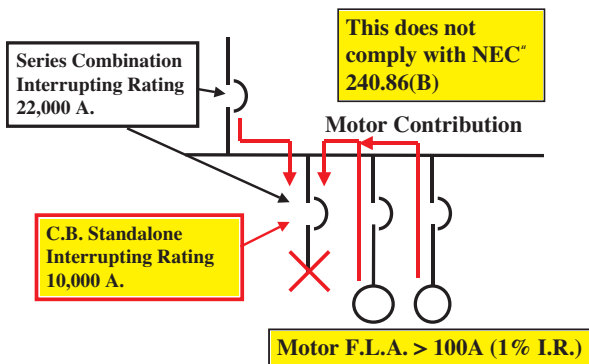
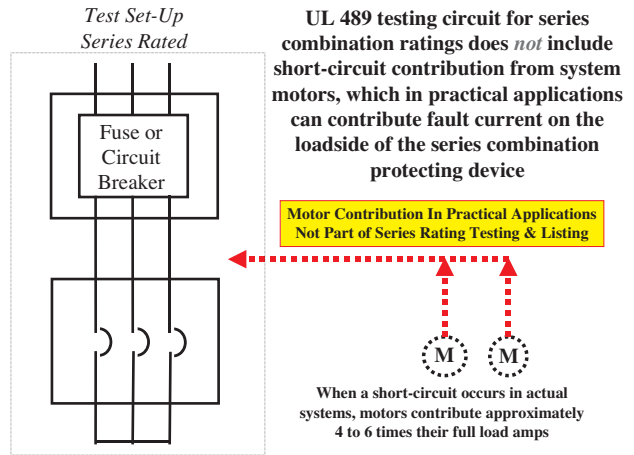

Figure 5
Figure 6
This is a major limitation. It is critical for initial installations but in addition, future system changes can negate the series combination rating. Where motors are connected between the line side (protecting) device and the load side (protected) circuit breaker, 240.86(B) has a critical limitation on the use of series rated combinations. This section requires that a series rated combination shall not be used where the sum of **motor full load currents exceeds 1% of the load side (protected) circuit breaker's individual interrupting rating**. See Figure 5. The reason is that when a fault occurs, running motors momentarily contribute current to the short-circuit (usually about four to six times their full load rating). This added motor contribution results in a short-circuit current in excess of what the loadside (protected) circuit breaker was tested to handle in relation to the lineside (protecting) device per the series rated combination testing. See Figure 6.